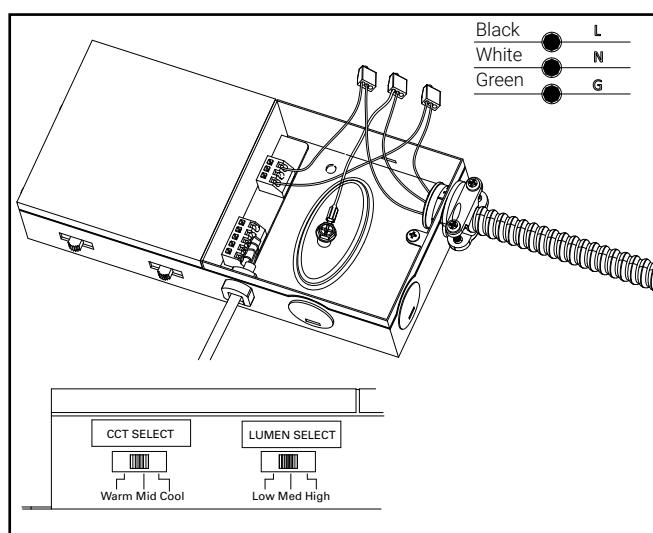

Figure 9.
3. Unscrew the power supply screw and connect the mains power to the power supply in order of green to ground, white to neutral, and black to hot. Desired lumens and color temperature can be selected by adjusting the switches on the driver box. See Figure 9.